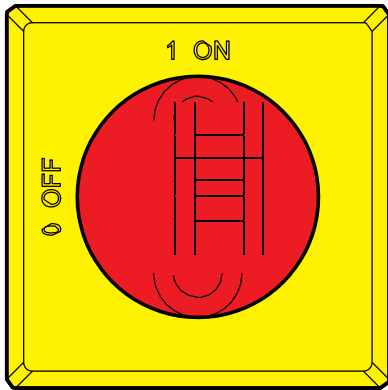
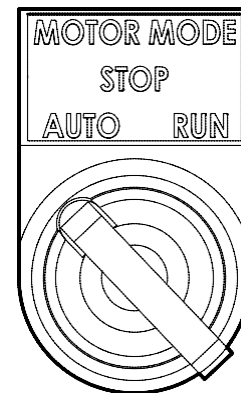

Figure 4-3: Power Disconnect/Power Lock-out Switch
Figure 4-4: 3-Position Motor Mode Switch
- Turn the power Disconnect switch on the back of the electrical enclosure to the **ON** position (see Figure 4-3: Power Disconnect/Power Lock-out Switch). Make sure the 3-position motor mode Switch is turned to the **AUTO** position (see Figure 4-4: 3-Position Motor Mode Switch).
1. Turn the Power Disconnect Switch to the **OFF** position (see Figure 4-3: Power Disconnect/Power Lock-out Switch) and lock out the electrical and pneumatic supplies.